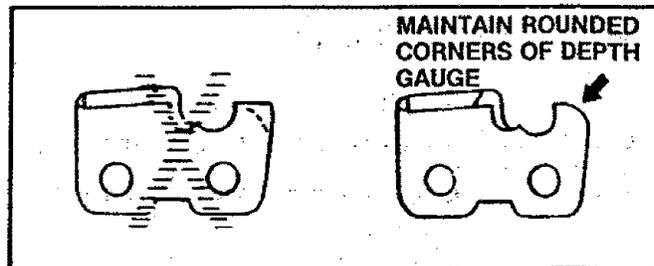

Figure 43
- c.) Maintain rounded front corner of depth gauge with a flat file. Figure 43.